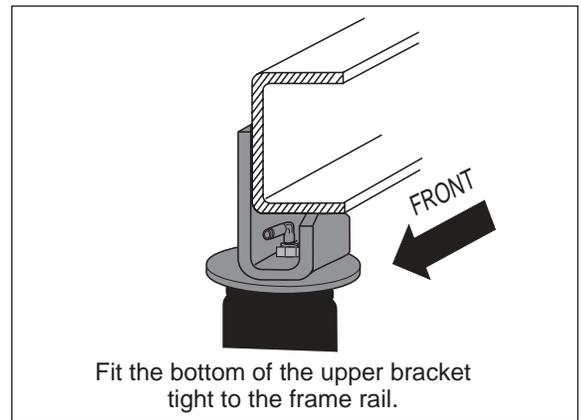

Figure 4
2. Thread the attached air fitting through the bottom of the J-bracket. Position the elbow towards the front or rear of vehicle depending on which direction will allow easier access for the air line (Figures 1 and 2). Slide the provided nylon nut over the air fitting and onto the threaded post. Tighten the nylon nut hand tight to secure the bracket (Figure 4).
- To install the upper bracket, lower the axle or raise the frame until the upper bracket is in line with the lower and on the same angle as the leaf spring. The lower mounting surface of the upper bracket must be parallel to the mounting surface of the lower bracket and the sleeve should be straight when installed between the brackets. The upper bracket is designed so that it can be "tilted" for the proper angle (Figure 3). The bottom of the upper bracket must fit tight to the bottom of the frame rail (Figure 4). Using the bracket as a template, center punch and drill three 5/16" holes. The holes must be no larger than 5/16". Attach the upper bracket using the Self-Tapping Frame Bolts and tighten securely (Figure 1). **DO NOT OVERTIGHTEN.**